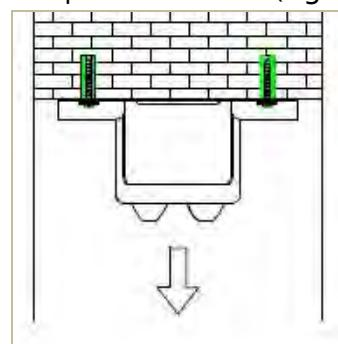

Fig 3
- (2) For cement ceiling, first use φ8mm impact drilling bit to drill two holes to fit the expansion screws, then secure the bracket on the ceiling by tightening M6 expansion screws. (Fig 3)